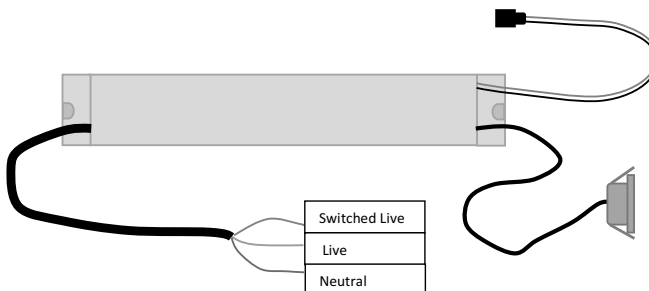

Fig 2
- Connect the luminaire to the mains supply via a suitable junction box ensuring the correct polarity is observed (see Fig 2). Live (brown), Neutral (blue) & Switched Live (red)